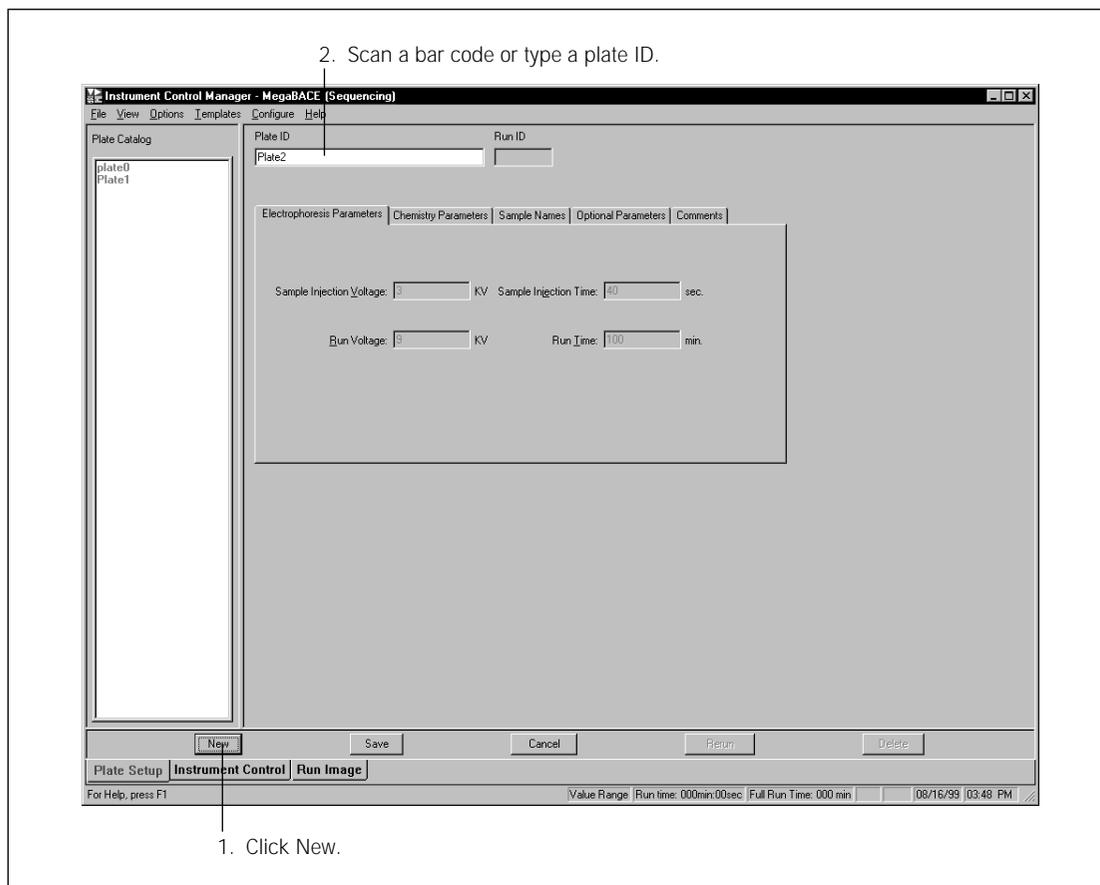

Figure 4-7. The Plate Setup window with the electrophoresis parameters for sequencing displayed.
1. In the Plate Setup window (figure 4-7), click **New**.
The Instrument Control Manager automatically saves the new plate definition, and the plate ID appears in the Plate Catalog (figure 4-7).